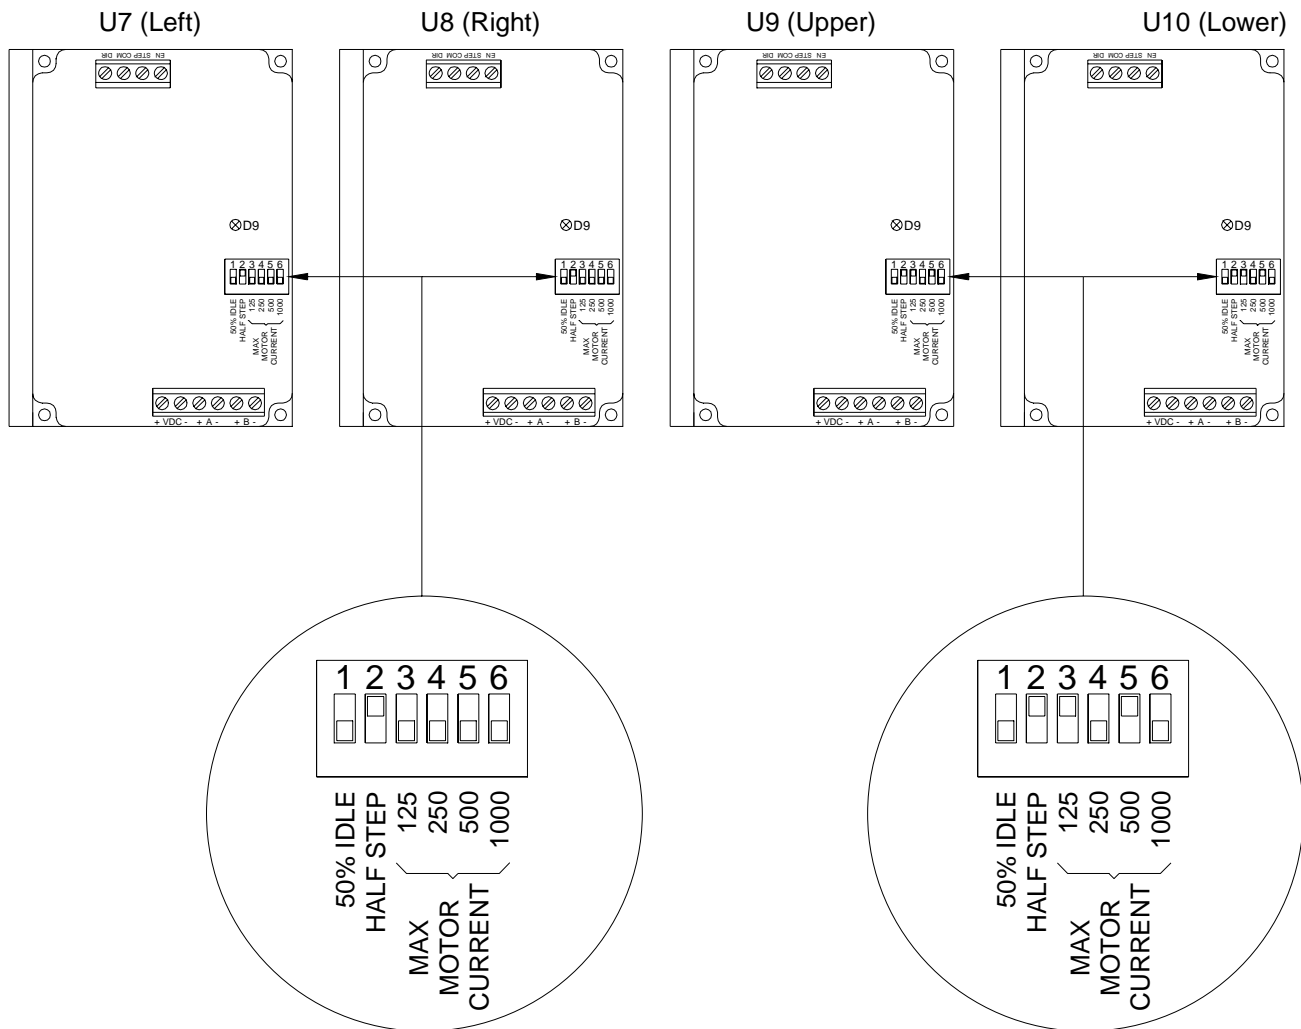

Figure 5-14-c. Setting of DIP Switches on Step Motor Driver Boards
**Note:** If any of the Step Motor Driver Boards are replaced, the DIP switches on the board should be set as shown in Figure 5-14-c.
The four step motors, M2, M3, M4 and M5 are mounted to brackets attached to each corner of the light box. See Figure 5-14-b.
The step motors are very reliable and would not be expected to require replacement. If, however, replacement is needed, see Figures 5-14-b and 5-14-c and proceed as follows: